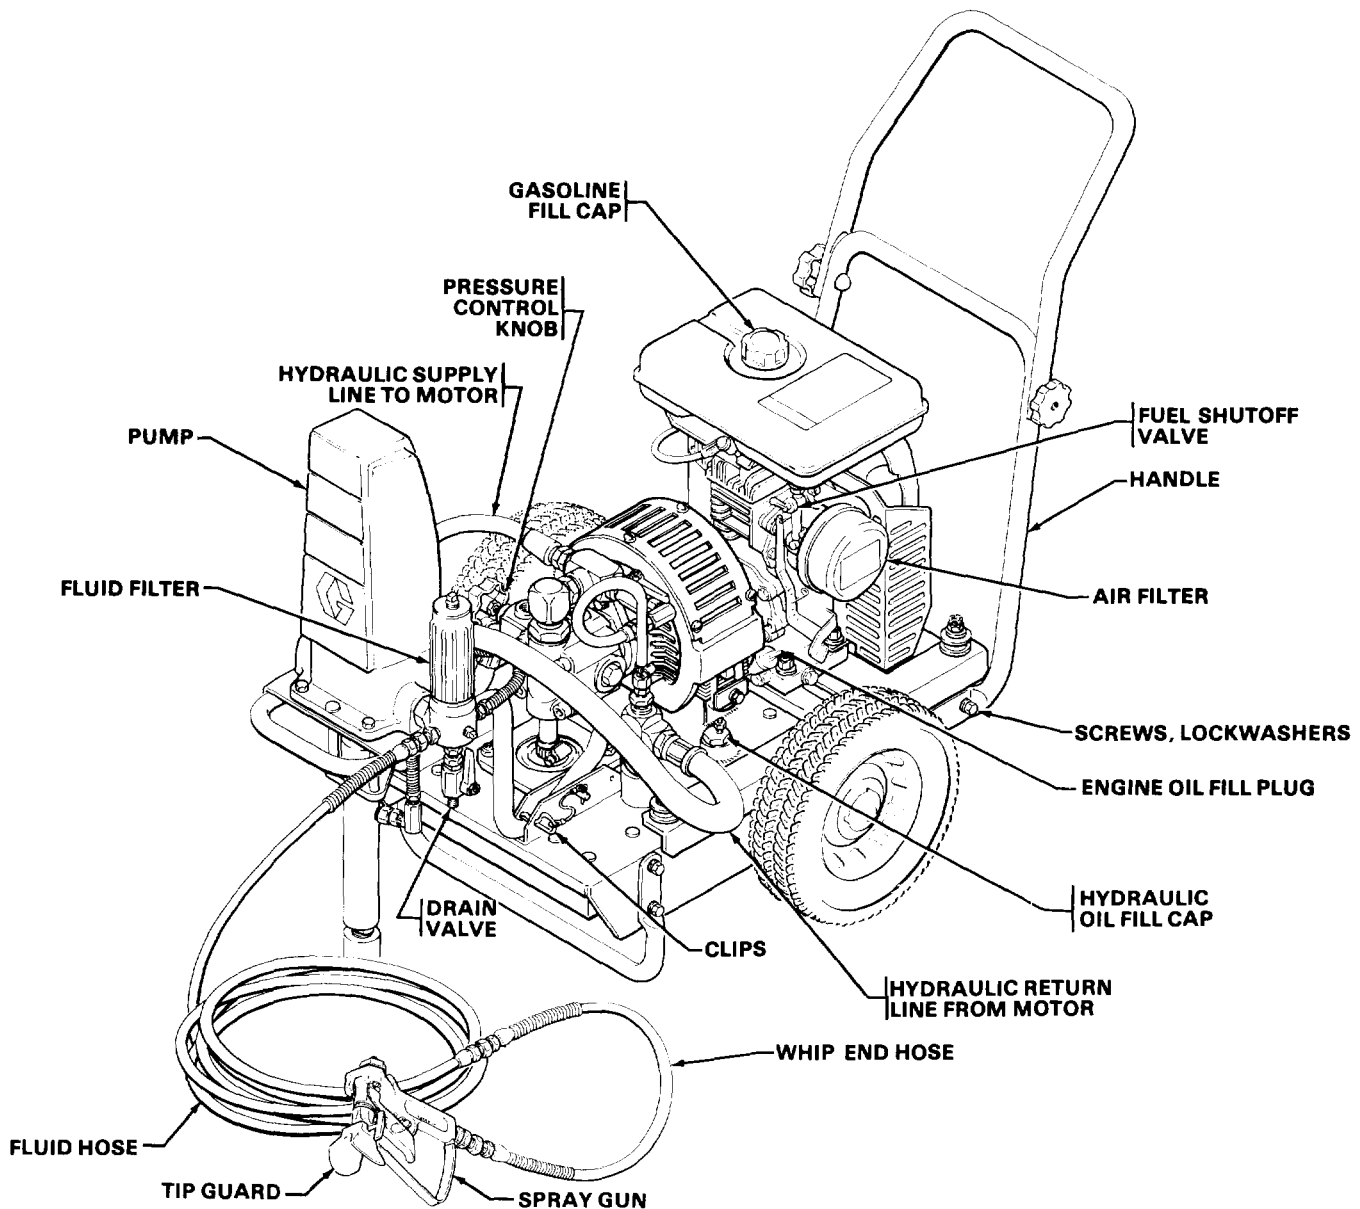

Fig 2
- c. Remove the gasoline fill cap and fill the tank, which holds about 1 gallon (3.8 liters) of fuel. Be sure the air vent in the fill cap is not plugged so fuel can flow to the carburetor, then replace the cap. See Fig 2.